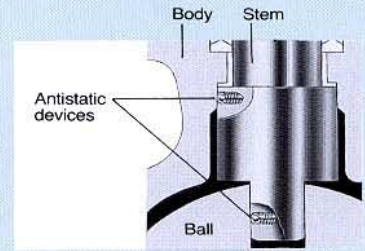

Fig. 2
2. The lower end of the stem is designed with an integral collar to be **blowout-proof**. It also functions as the backseat for assured stem sealing. (Fig. 2)
3. An **antistatic feature** is provided to ensure electrical continuity between ball, stem, and body. (Fig. 2)